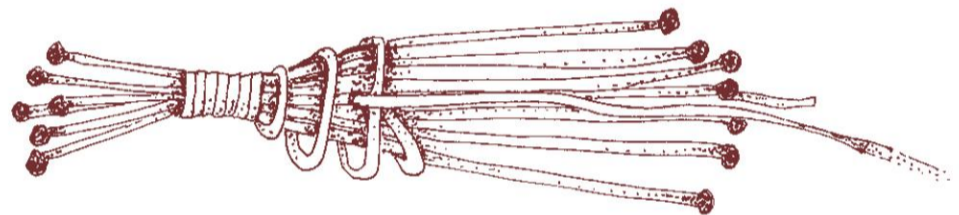

Figure 3
**6** Wrap the same way, but this time catch the end of the mesh. Wrap it in securely. Secure the end wrap by looping the 24-gauge wire on itself in the front of the pod, and place the 24-gauge wire over the opening of the pod shape (see figures 3 and 4).